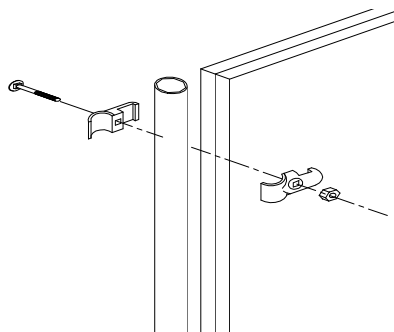

Figure 9
1. Attach the filler pipes to the front end of each division panel with two square-round clamps (it takes two halves to make up one clamp) approximately 6" from either end of the filler pipe using the 5/16" x 1-3/4" carriage bolts and 5/16" nuts provided as shown in Figure 9.